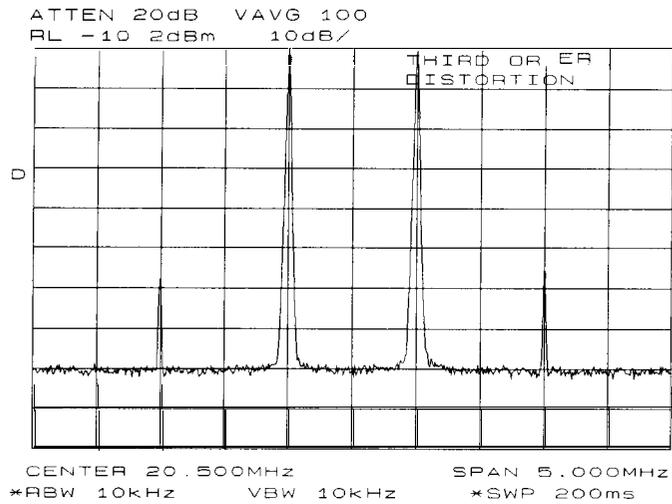

Figure 2-25. Display with Title
- b. Use the **softkeys** from the screen-title menu and the knob (to choose the letters) to create a title. The title appears in the upper-right corner of the graticule; it can be up to two rows of 16 characters each (see Figure 2-25).